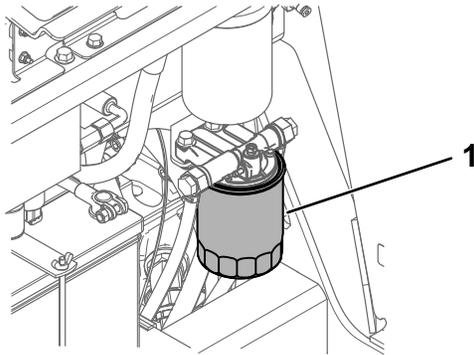

Figure 58
5. Place a clean container under the fuel filter canister (Figure 58).